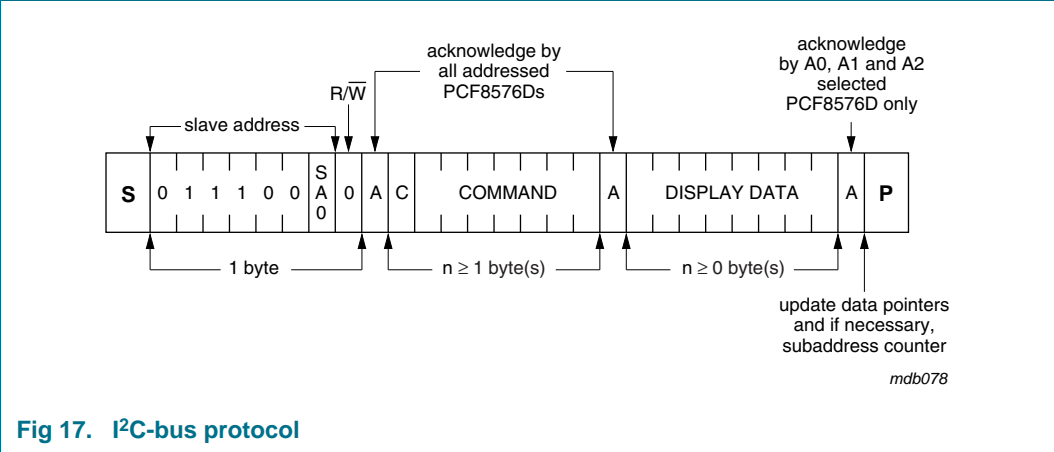

Fig 17. I2C-bus protocol
The I2C-bus protocol is shown in Figure 17. The sequence is initiated with a START condition (S) from the I2C-bus master which is followed by one of two possible PCF8576D slave addresses available. All PCF8576Ds whose SA0 inputs correspond to bit 0 of the slave address respond by asserting an acknowledge in parallel. This I2C-bus transfer is ignored by all PCF8576Ds whose SA0 inputs are set to the alternative level.